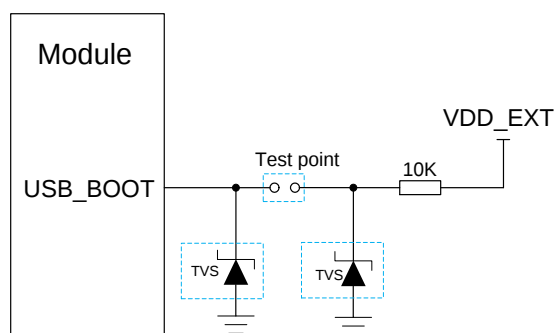

Figure 18: Reference Circuit of USB_BOOT Interface
2. When using MCU to control the module to enter the emergency download mode, please follow the above timing sequence. It is not recommended to pull up USB_BOOT to 1.8 V before powering up VBAT. Connect the test points as shown in **Figure 18** can manually force the module to enter emergency download mode.
4.5. (U)SIM Interface